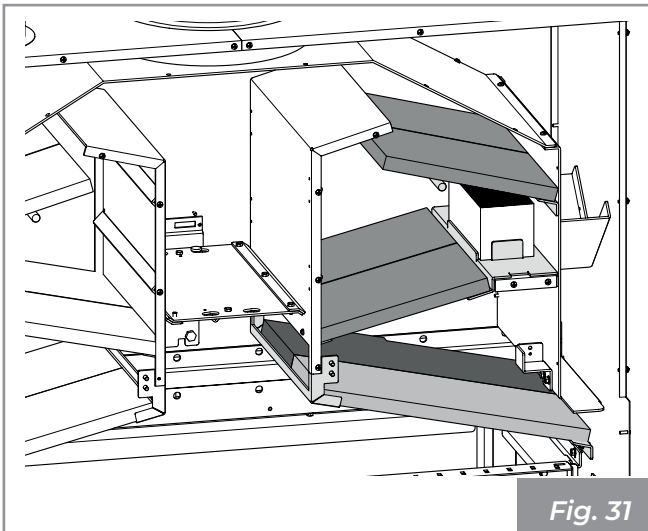

Fig. 31
- 6) Proceed in the same way on the opposite side (Fig. 31).